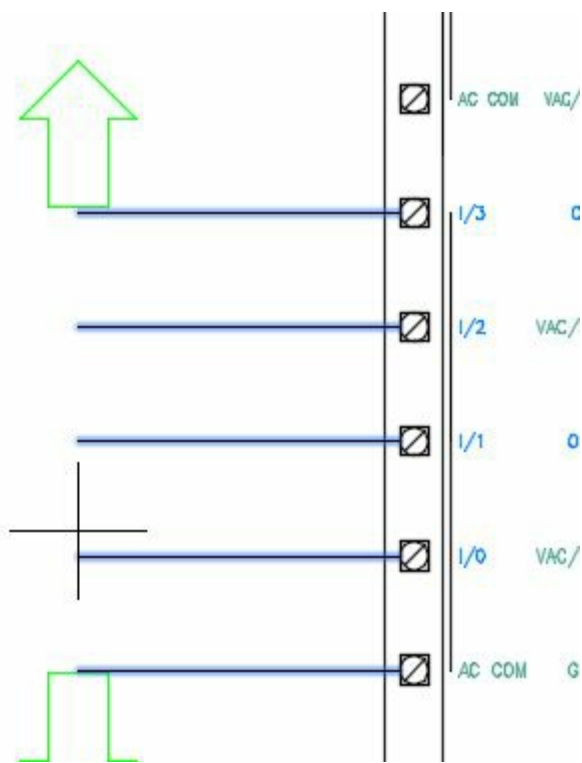

Figure-56. End point of wire bus attached to cursor
- Press ENTER from the keyboard and move the cursor. End point of the wire bus will get attached to the cursor; refer to Figure-56.